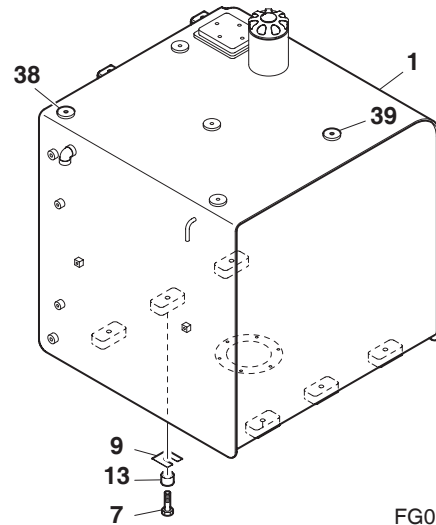

Figure 14
1. Install two 12 mm eyebolts in threaded holes (38 and 39, Figure 14). Using a suitable lifting device, sling eyebolts.
2. Set fuel tank (1, Figure 14) into position. Install six bolts (7) and spacers (13) finger tight, to secure tank to frame.
3. Install shims (9, Figure 14) as needed to prevent tank (1) from rocking or stress from mounting bolts (7).
4. Tighten mounting bolts (7, Figure 14) after shims are installed.